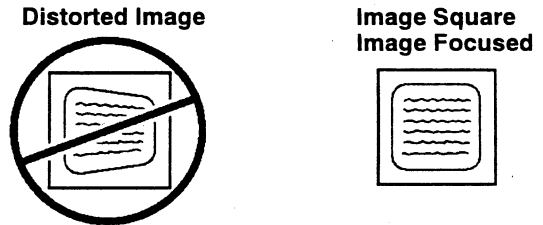

Figure 4-6. Square and Focused Image
2. Turn the projector on and focus an image on the screen. Check to see that the sides of the projected image are square. Figure 4-6.
5. After the projection head is aligned, check for a square image that is focused in all corners. Figure 4-6.